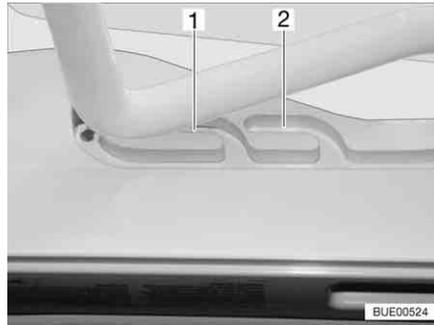
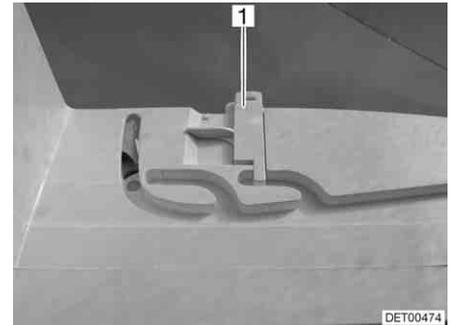

Fig. 69 Heki skylight in ventilation position
Fig. 70 Ventilation position locking mechanism
The Heki skylight can be put in two ventilation positions: Bad weather position (Fig. 69,1) and central position (Fig. 69,2). Depending on the model, the skylight can be locked in the central position with the latch (Fig. 70,1).
- Push the bar slightly upwards and into the selected guide (Fig. 69,1 or 2) and lock if necessary.